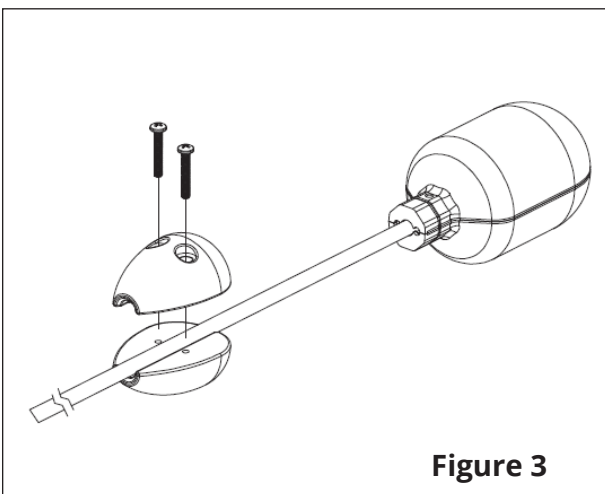

Figure 3
3. Secure the float switch cable by aligning the screw holes and tighten so both halves of the cable weight are snug against the cable (Figure 3). Perform a pull test. If the float switch cable slips, tighten the screws until it is securely fastened to prevent slipping.